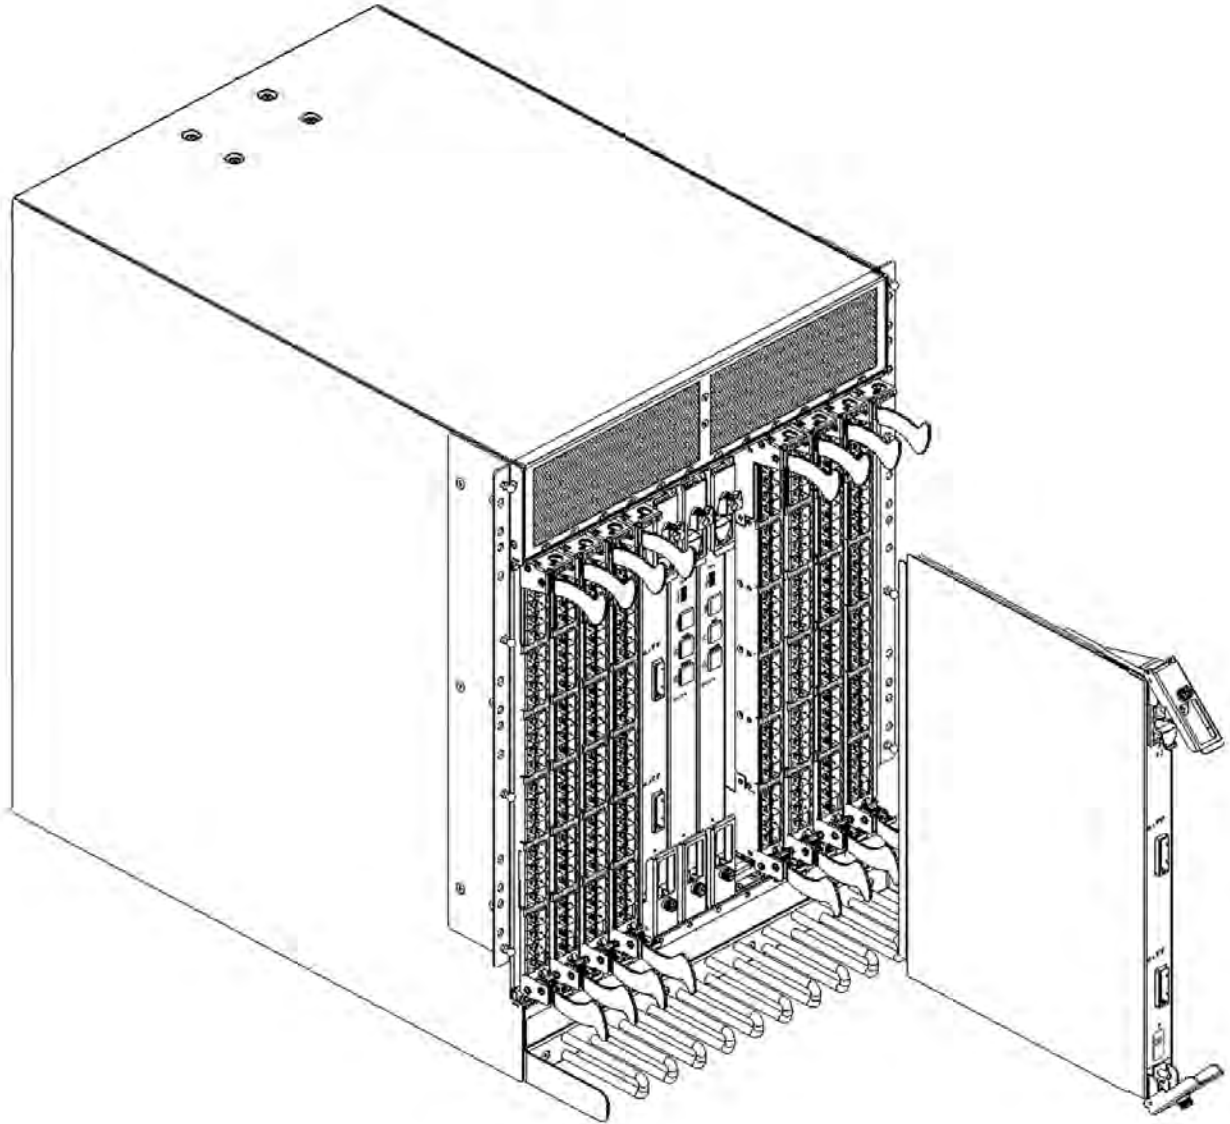

Figure 29. Removing the core switch blade
2. Power off the blade by sliding the slider switch in the top ejector down to the off position (see Figure 29 on page 69).
5. Lever open both ejector handles simultaneously to approximately 45 degrees and pull the core switch blade out of the chassis (see Figure 29 on page 69).